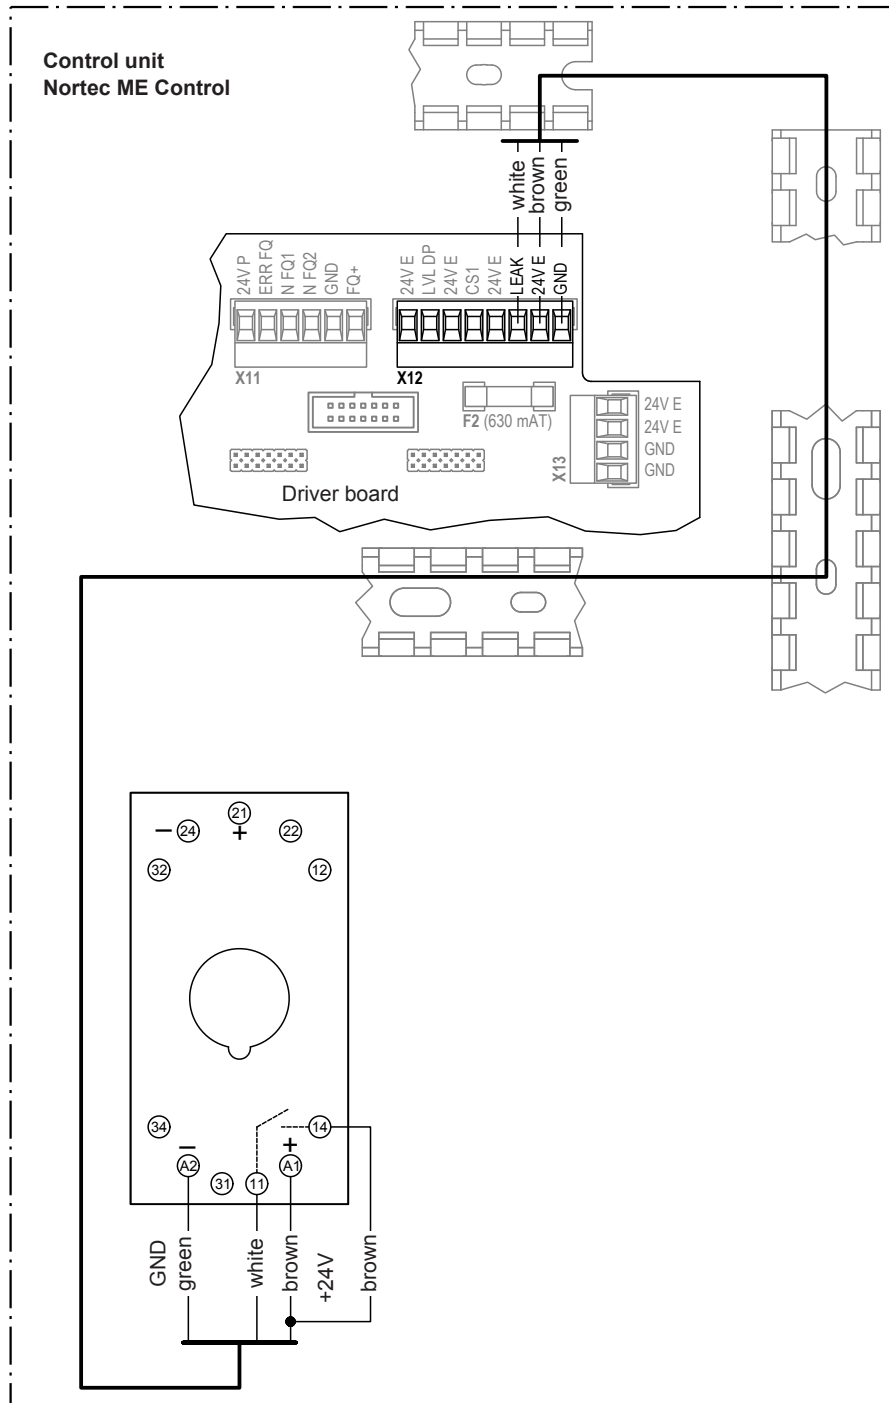

Fig. 7: Connecting the leak detector base to the driver board
10. Feed the leak detection cable (grey) upwards through the cable trunking and connect it to terminal "X12" on driver board (refer to Fig. 7 for details on connections).